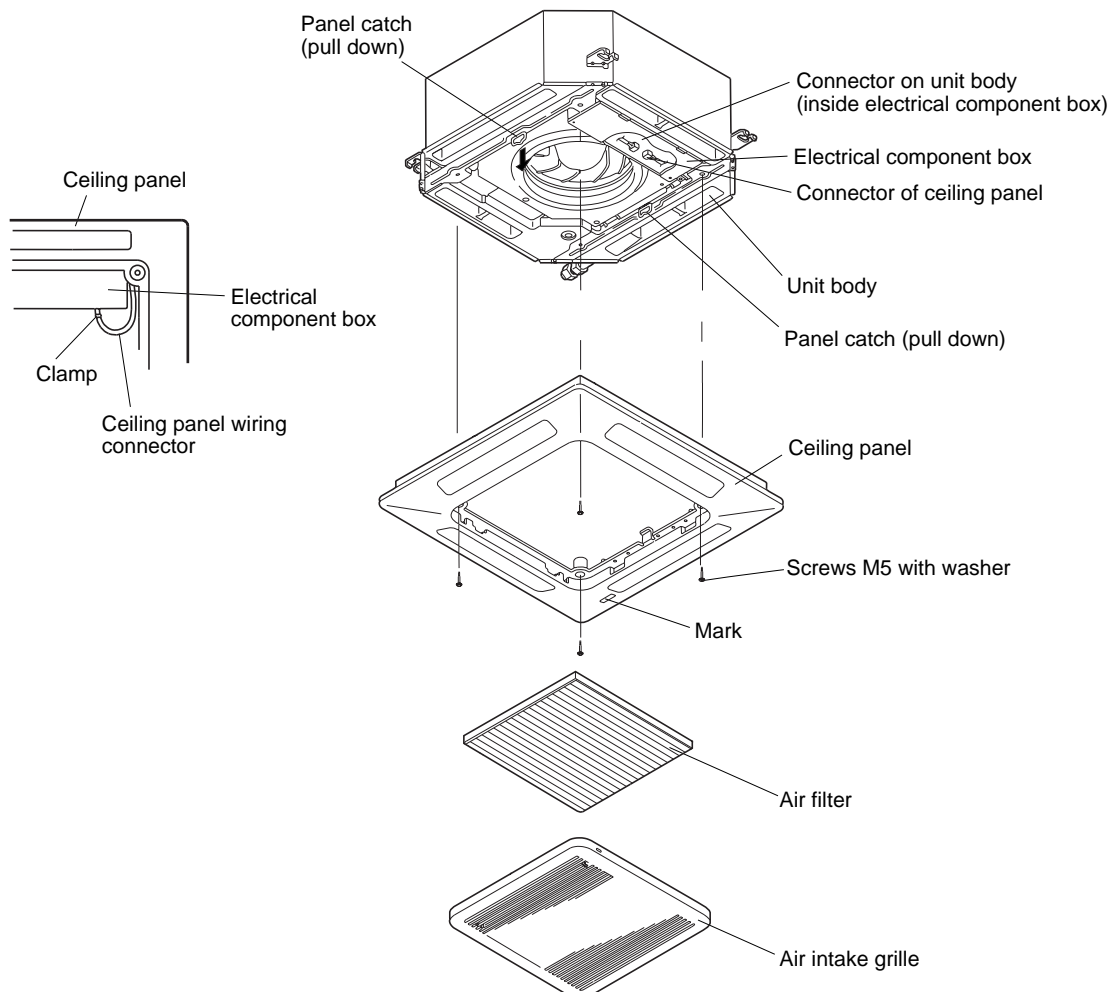

Fig. 11-10
- (2) Pull down the two panel catches of indoor unit body. (Fig. 11-10)